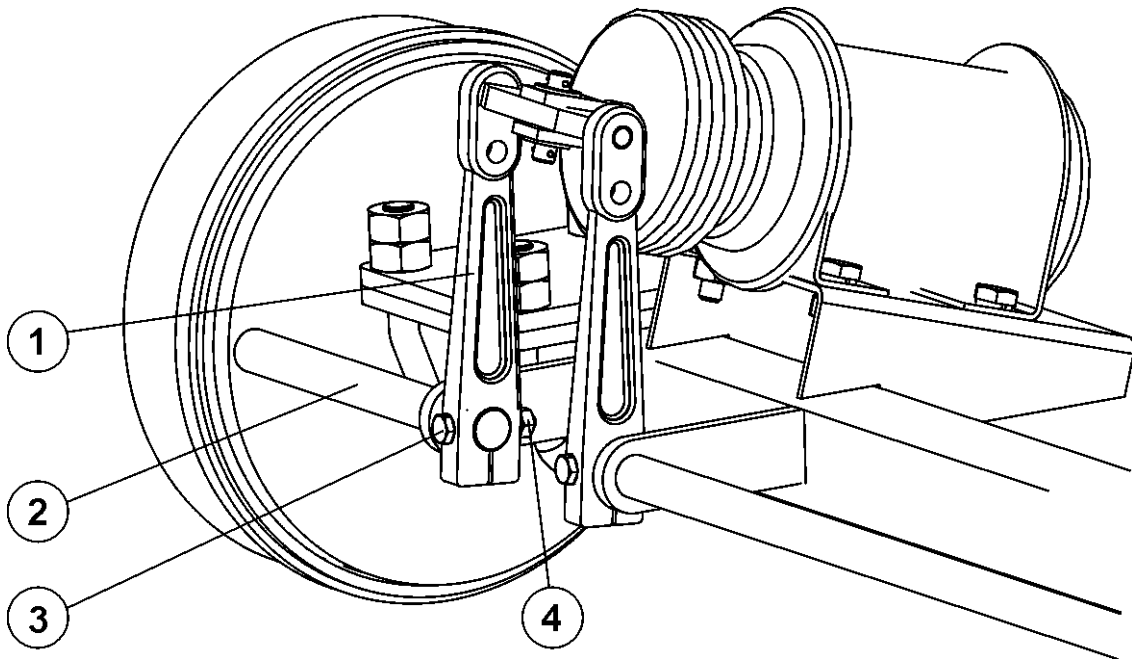

Fig. 11. The brakes adjustment components
Opening chute opening (1) (figure 11), requires previous loosening of securing nut (2). If using chute opening do NOT open rear side locks.
Brakes adjustment involves changing the setting of the expander arm (1) (figure 11), in relation to expander shaft (2). To do this, loosen nut (4), and then place expander arm on the end of the multisplined shaft (2) in the appropriate direction, that is: